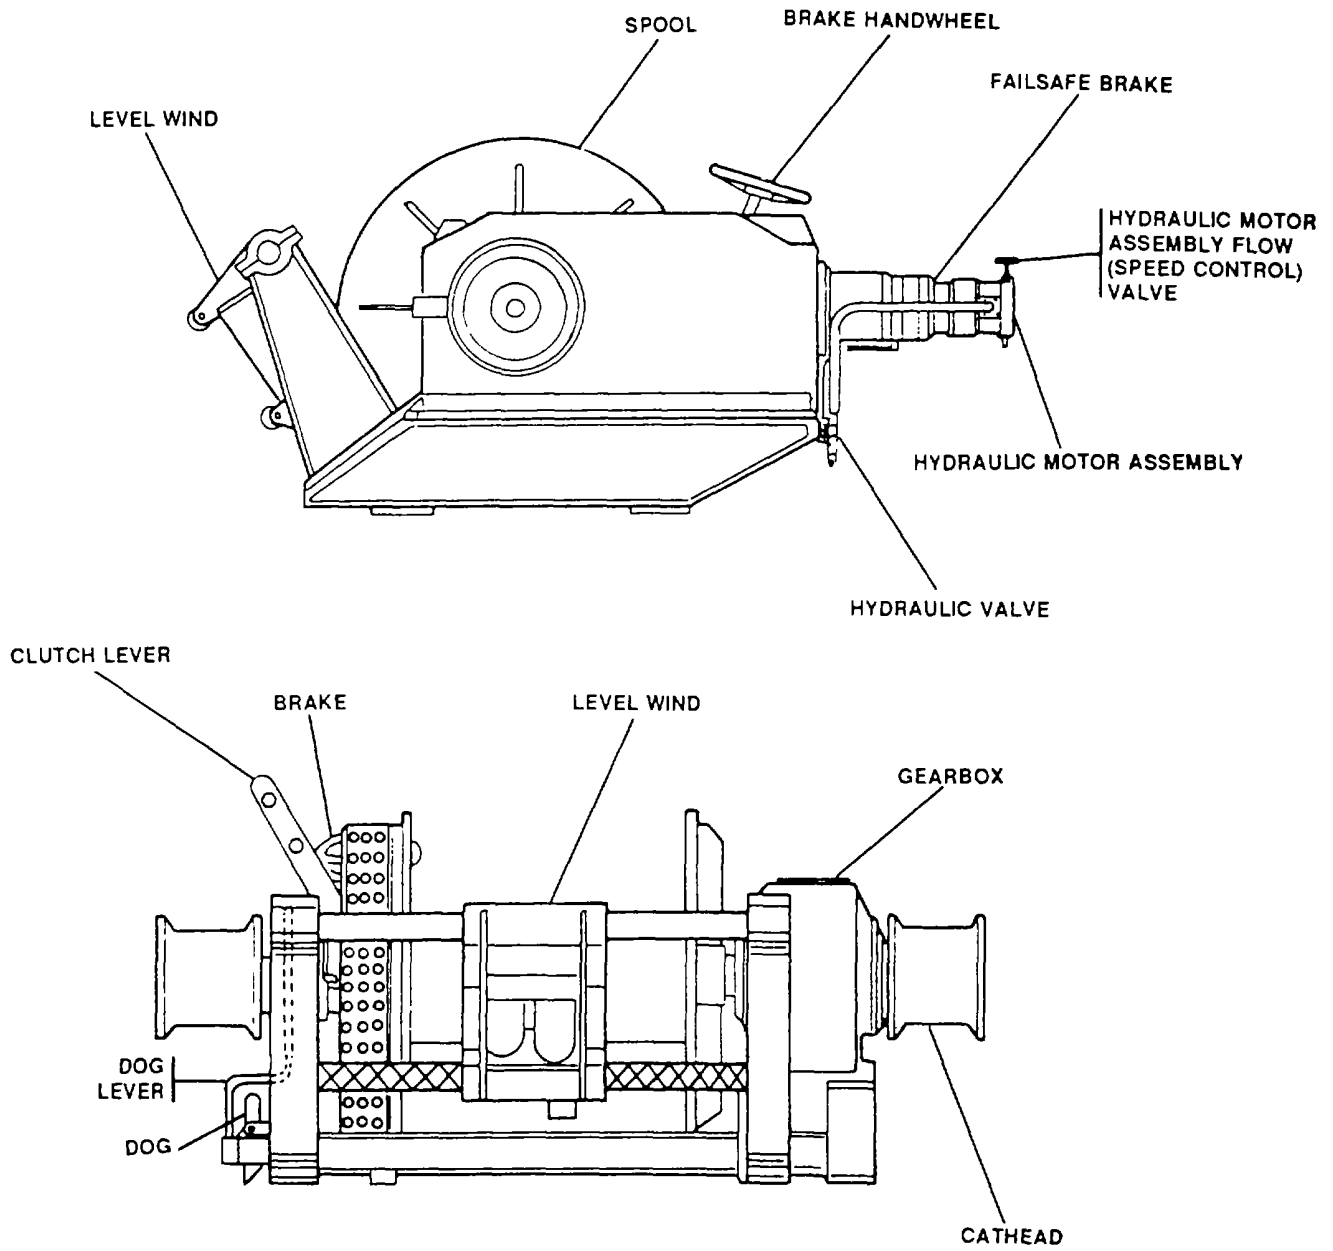

FIGURE 1-1. Stern Anchor Winch Assembly Component Location.
- (1) Raises and lowers the anchor.
- (2) Winds and stores 1200 feet of wire rope.
- (3) Usable for other kinds of hauling besides anchor handling.
- (4) Handles 35 ft/minute first wrap.
**1-8. Location and Description of Major Components.** The stern anchor winch is made up of the winch and hydraulic power pack assemblies. These major components are illustrated in FIGURES 1-1 and 1-2, and described below.
- (1) Spool and levelwind. Winds up and stores the anchor wire rope.
- (2) Brake handwheel. Manually operated brake handwheel for braking during spool operation.
- (3) Failsafe brake.